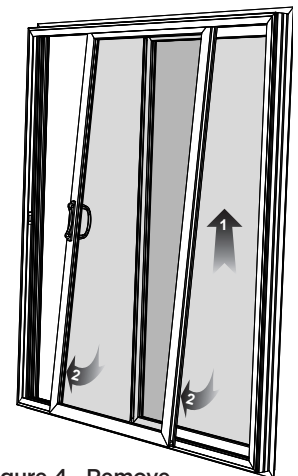

Figure 4—Remove Active Panel
3. Lift the panel up and swing the bottom edge out, then slightly lower the panel until the top edge clears the frame (**Figure 4**). Carefully set aside for reinstallation later.